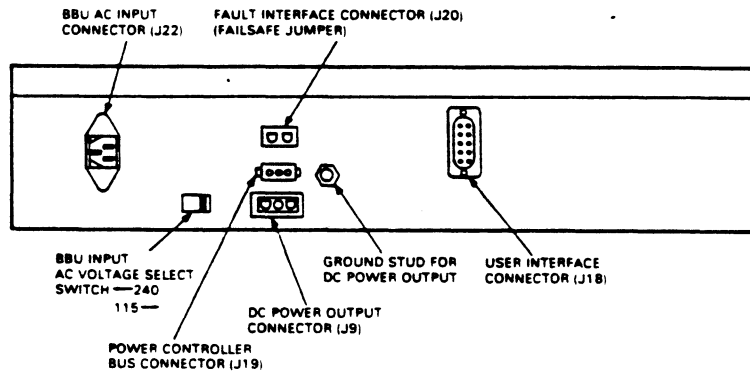

FIGURE 2-37 BBU REAR PANEL
21. Install the two position keyed jumper into mating connector (J20) on the BBU rear panel. See Figure 2-37.